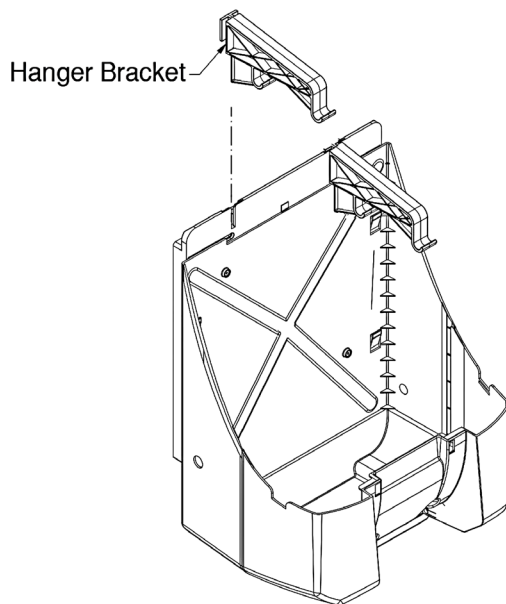

FIGURE 3
**Step 3. Hanger Brackets (Ref Figure 3)**